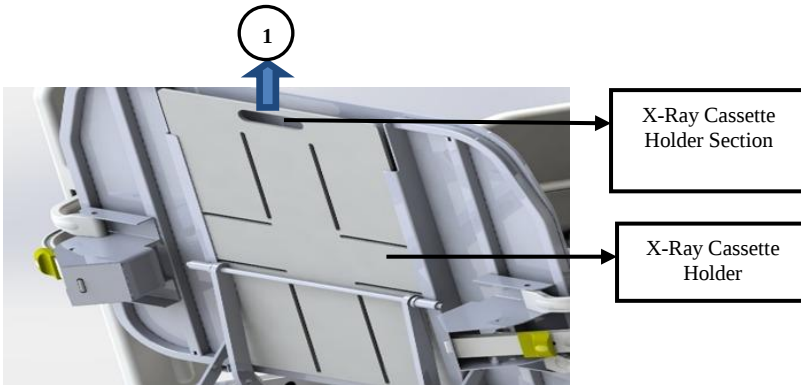

Figure 10. X-Ray Cassette Section
2. Hold the X-Ray cassette holder with one hand and pull it upward, as shown by **arrow 1** in **Figure 10**, until it reaches the desired position.